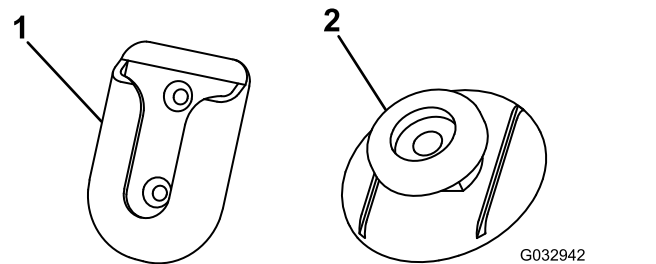

Figure 26
3. Clean the back of the swivel mount (Figure 26) with the alcohol wipe and then dry it.
7. Remove the backing from 1 side of the adhesive and apply it to the back of the mounting tab (Figure 26).